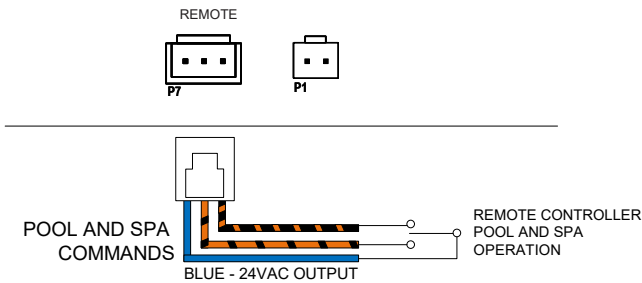

Figure 40. 3-Wire Remote Harness Installation
- On the 3-wire remote interface harness, connect the BLUE wire to one side of the remote automation controller and connect the ORANGE/BLACK wire for "SPA" operation and the BLACK/ORANGE wire for the "POOL" operation. See Figure 40.
- Install the 3-wire remote interface harness to the "P7" connector and turn power ON to the heater. See Figure 40.
11. For 3-wire control, connect the BLUE wire to one side of the remote controller and connect the ORANGE/BLACK wire for "SPA" operation and the BLACK/ORANGE wire for the "POOL" operation. See Figure 40.